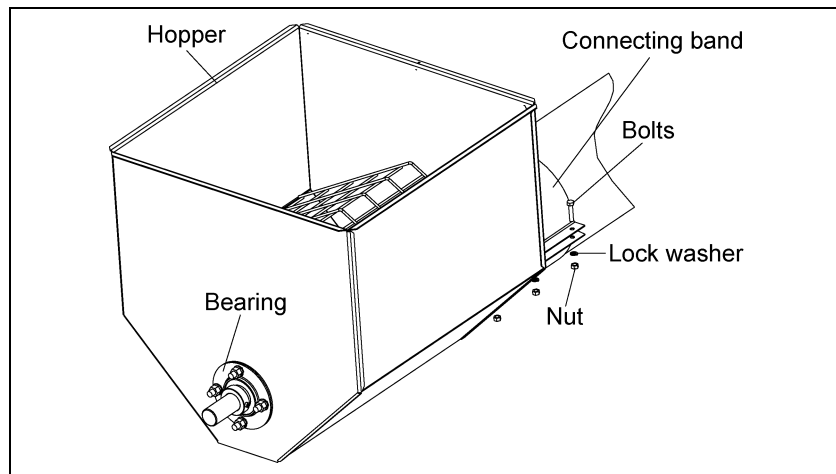

Figure 4F
- A. Slide the hopper onto the tube and align the end of the flight approximately 1/2" from the surface of the bearing. With the proper distance set, install the proper bolt, lock washer and nut, and secure the hopper to the tube. (See Chart below and See Figure 4F.)